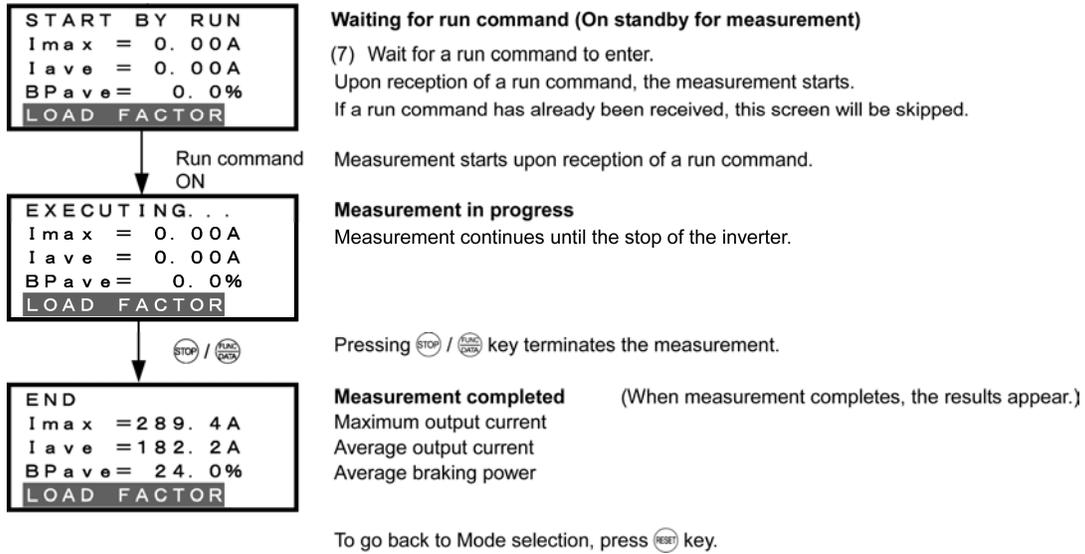

Figure 7.32 Screen Transition for "Load Factor Measurement" (Start-to-stop measurement mode)
- (1) Turn the inverter ON. It automatically enters Running mode. In that mode, press the (PRG) key to switch to Programming mode and display the menu screen.
- (2) Move the pointer → to "9. LOAD FCTR" with the (▲) and (▼) keys.
- (3) Press the (FUNC/DATA) key to establish the selected menu and proceed to the measurement mode selection screen.
- (4) Select START→STOP (Start-to-stop measurement mode) with the (▲) and (▼) keys.
- (5) Press the (FUNC/DATA) key to establish the selected measurement mode.
- (6) On the confirmation screen, press the (FUNC/DATA) key to switch to standby for measurement.
- (7) Wait for a run command to enter. For details, refer to the screen transition in Figure 7.32. Upon receipt of a run command, measurement starts.
- (8) Press the (RESET) key to go back to the mode selection screen.
- (9) Press the (RESET) key again to go back to the menu screen.
Figure 7.32 shows an example of the LCD screen transition starting from Menu #9 "Load Factor Measurement."